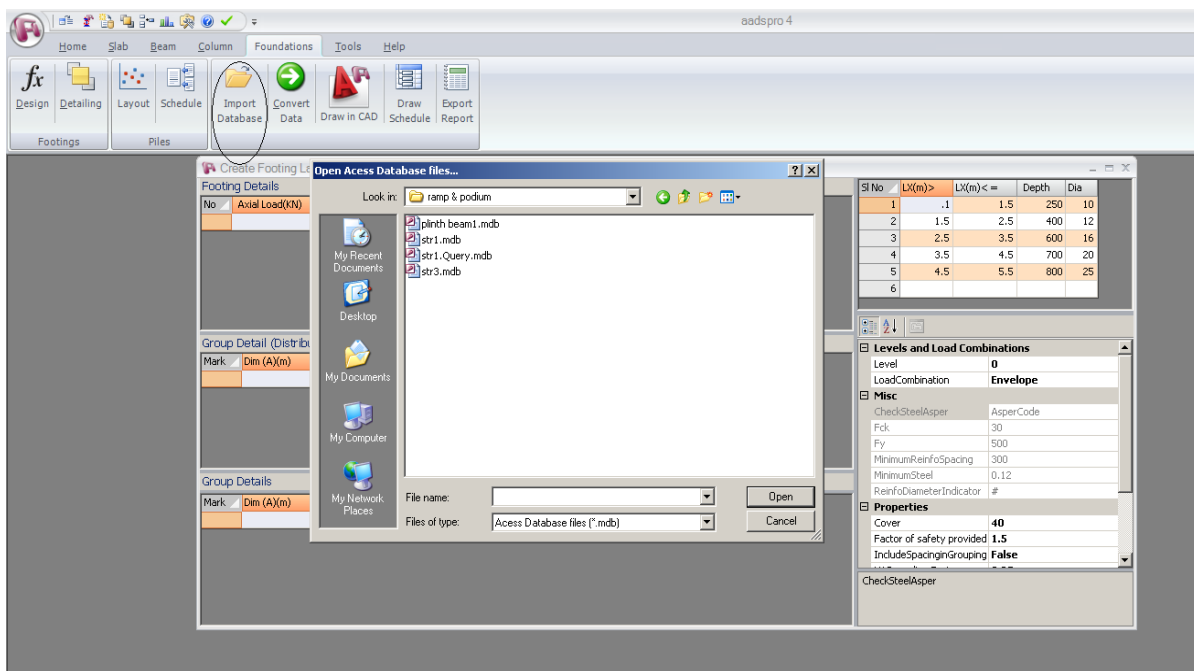

Fig 4.1.4
1. Click on the Import Database from tool bar (fig4.1.4)